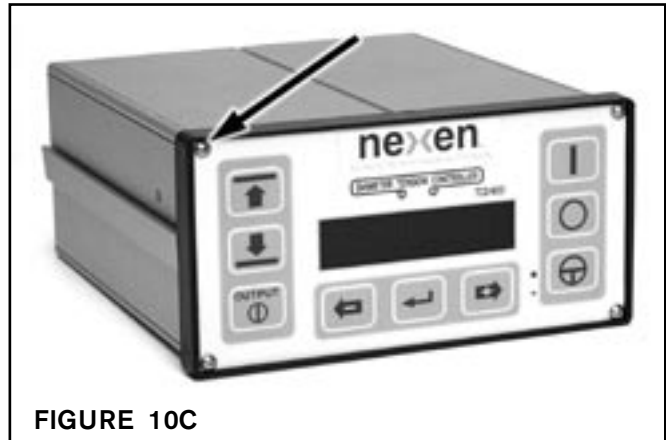

FIGURE 10C
4. Remove the upper left hand fastener from the front membrane switch panel. (See figure 10C)